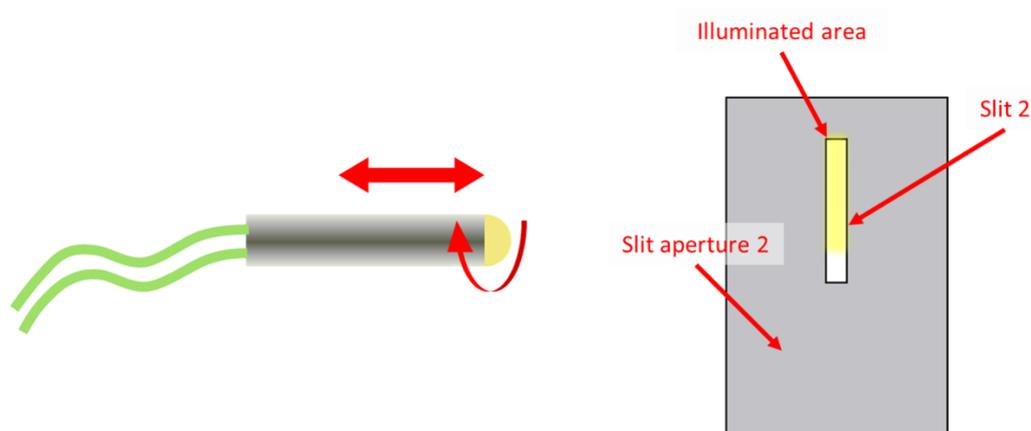

Figure 10. How to align the lamp position
- Turn the light bulb that the picture of the filament is parallel to the slit of the second slit aperture (refer to Figure 10).